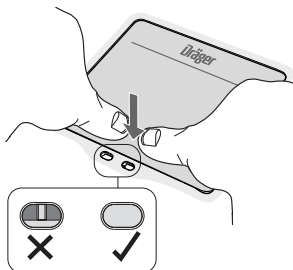

Fig. 40 Locking the power pack
- a. Use both thumbs to push down firmly in the bottom center of the power pack (Fig. 40).
- c. Ensure that the 2 sliding latches are engaged when viewed through the 2 keyholes (Fig. 40).